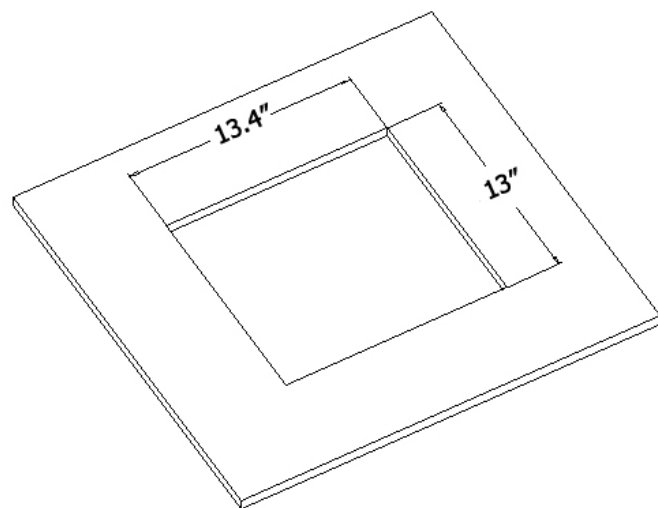
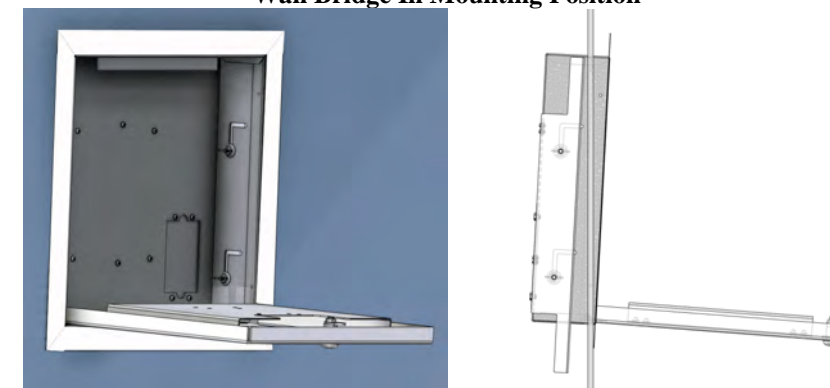

Figure 1 - Cutout Dimensions
Figure 3 - Installation Into Wall/Ceiling
**Step 1** - Cut a 13" horizontal x 13.4" vertical opening in the "hard lid" ceiling or wall (special cutting tools may be required – (ref. Figure 1).
**Step 3** – Place the (2) two wall bridges in the mounting position by loosening the (4) four wing nuts inside of the enclosure. The position of the wall bridges will look like the image in Figure 3. Place the enclosure in to the hole that was cut in Figure 1. Angle the enclosure at 10° with the wall bridges extended towards the bottom. The wall bridges will go in first. Once the bottom of the enclosure is in the hole push the enclosure so it is flush with the wall or ceiling.